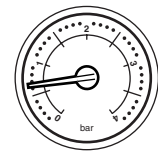

Fig. 1
1. Ensure that the electricity and gas supplies are turned on. Check that the central heating pressure is between 0.5 and 1.0 bar (Fig. 1).